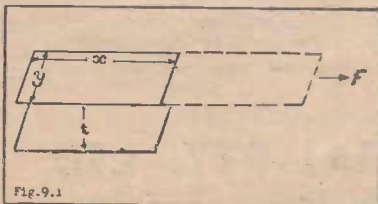

Fig. 1.—This diagram illustrates the effect of transverse forces in a capacitor.
Fig. 1.—Preparation of stencilled screen. (A) Screen coated with photo-sensitive material is exposed to strong light through a photographic positive of circuit pattern; (B) Stencil screen before and after pattern is applied photographically.
To impart the stencil pattern to the film, a photographic positive of the pattern desired is held tightly against the sensitized screen and exposed to light as in Fig. 1. Those parts of the film which are not exposed to the light are water soluble and wash out in cold water, leaving the design of the pattern to be printed.